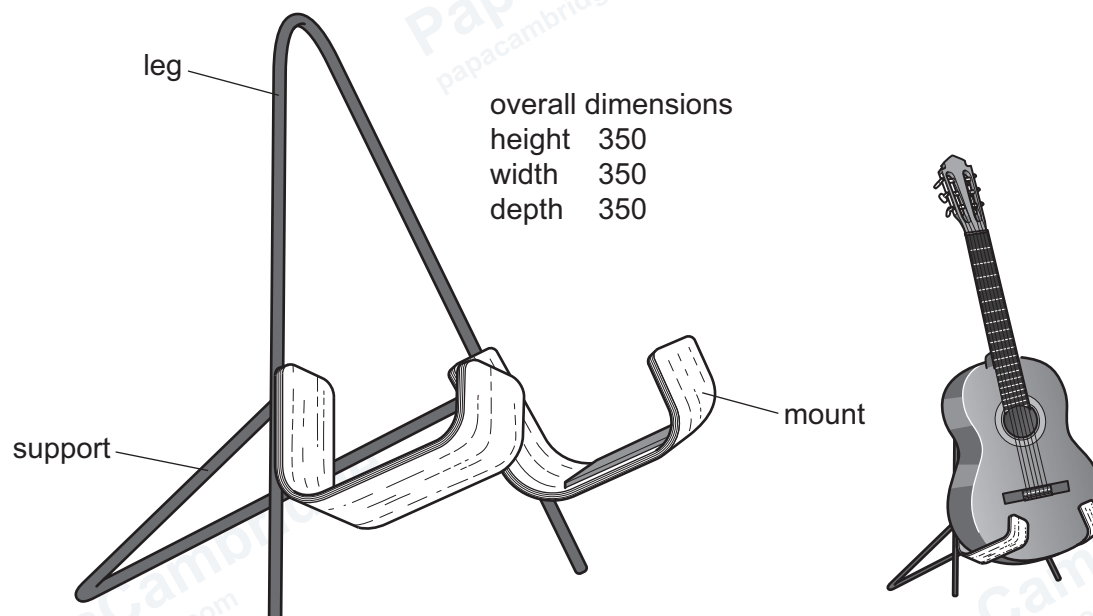

Figure 13.1
- 13 Figure 13.1 shows a design for a guitar stand. The leg and support are made from Ø8 mild steel rod and the mounts are laminated, using 1.5 mm thick hardwood veneers.